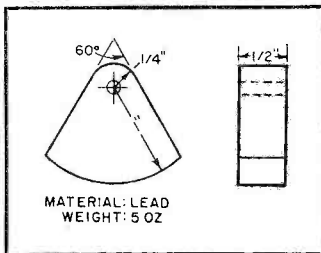

Fig. 5. You can fashion a pendulum from a piece cut from an old tuning flywheel.
**Construction.** The circuit of Fig. 1 is assembled in the U-shaped portion of a 5" x 3" x 2 1/4" metal case, drilled as shown in Fig. 2. A cover fabricated by following the layout of Fig. 3 can be covered with a contact-adhesive leatherette finish. Construct the mounting brackets for R5 and R4 as shown in Fig. 4. Build, or purchase (see Parts List) the pendulum following the information given in Fig. 5.